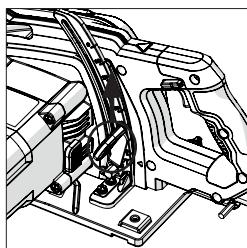

Fig. 10
- Loosen the Depth Adjustment Locking Mechanism by pulling the operating lever, **(5)**(**Fig.10**), upwards.